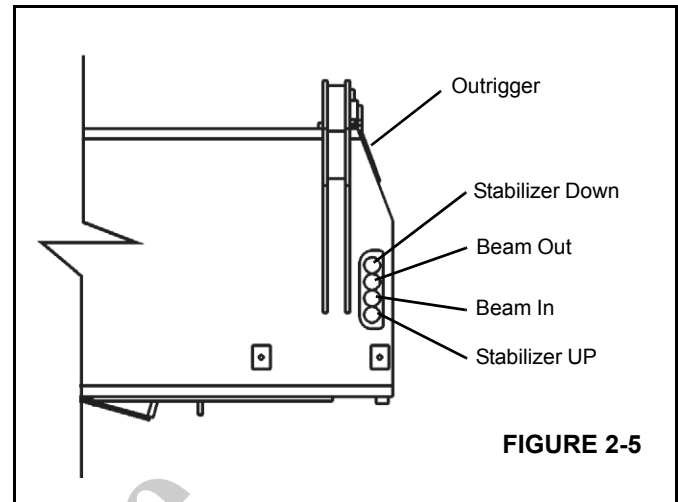

FIGURE 2-5
2. Install a tee connector with a pressure gauge in the retract line (Figure 2-5).